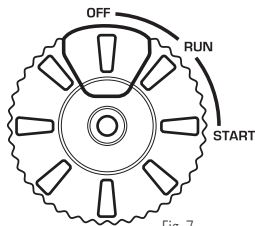

Fig. 7
3. Turn the Multifunctional engine switch to the “OFF” position (Fig. 7).